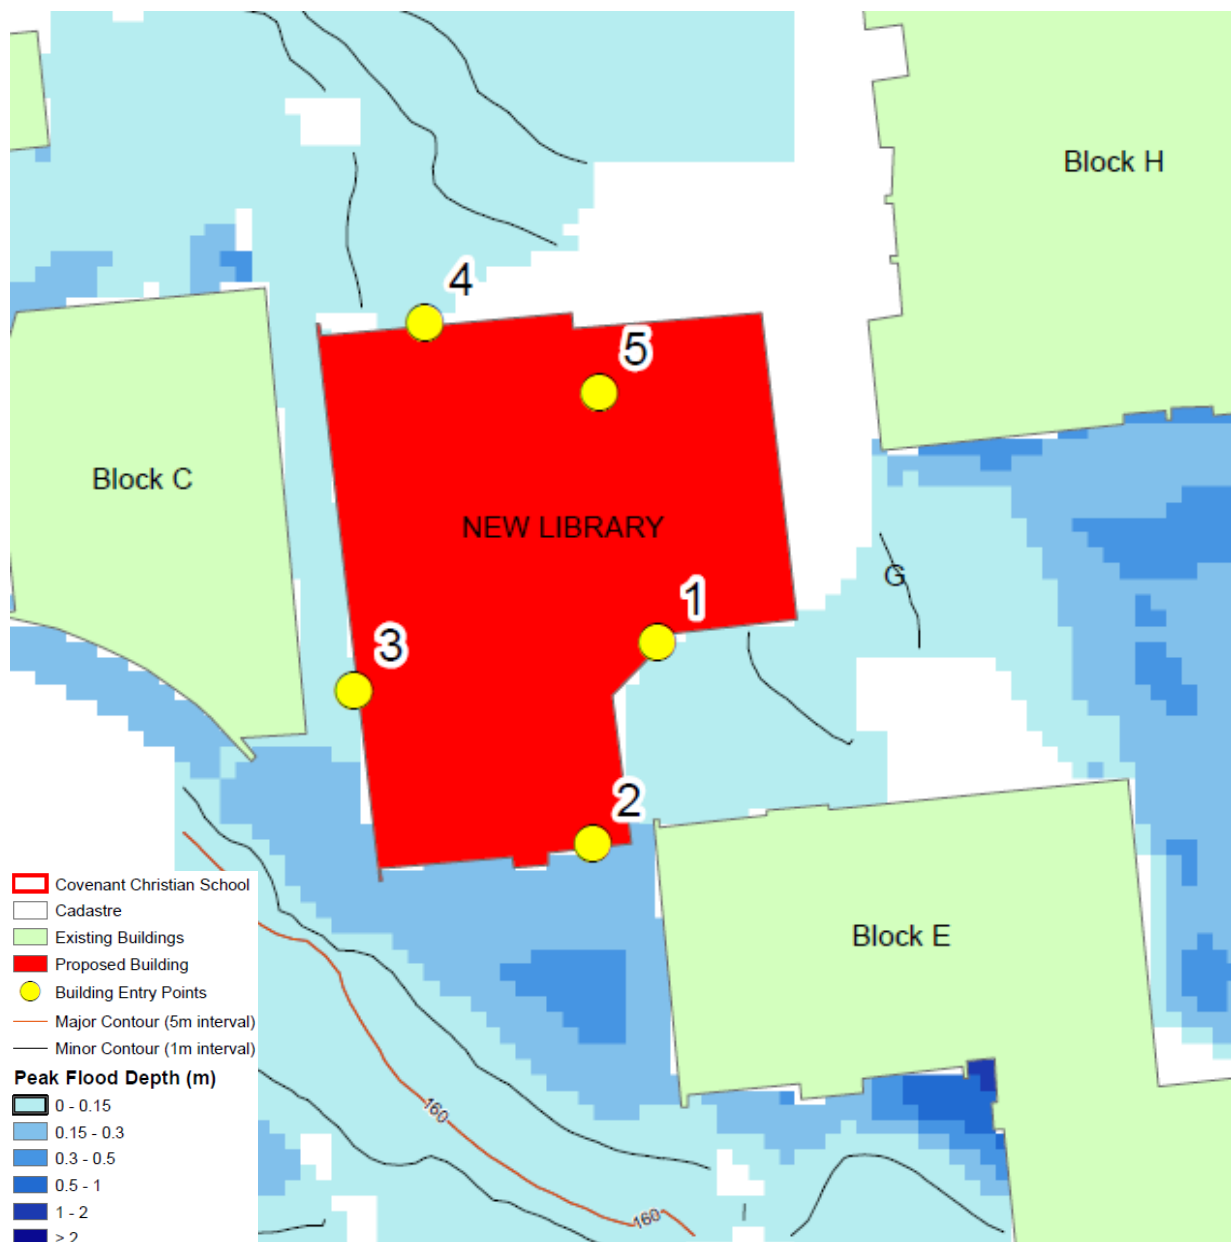

Figure 1: building entry points to Block D (new Library) (source WMA Water)
- The flood risk at the building in a 1% AEP event is considered to be minor, with flood depth being approximately 0.2 m at the upstream (southern) end of the building and reducing to approximately 0.1 m around the building (refer to **Figure 1**).
- Entry 4 Three (3) entrances have been proposed at this location, and water from the western side of Block D may flow down from the stairs to potentially enter one of these entrances. If water reaches the pathway on the northern side of the building, it may be directed eastward by an existing retaining wall. It is anticipated that any flooding on these floors would likely be minor and improbable to result in significant flooding or damage occurring within the building during a 1% AEP event.